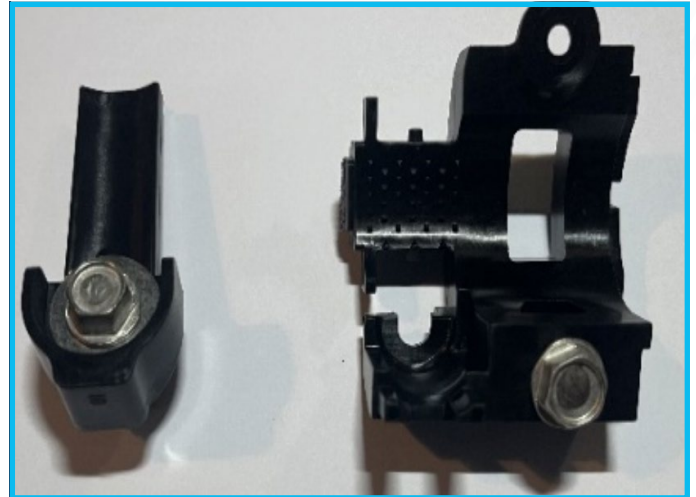

Figure 5.1
2. Snap off the top section of the CAU. The top section is not required when installing Fujikura SWR ribbon cables [figure 5.1].